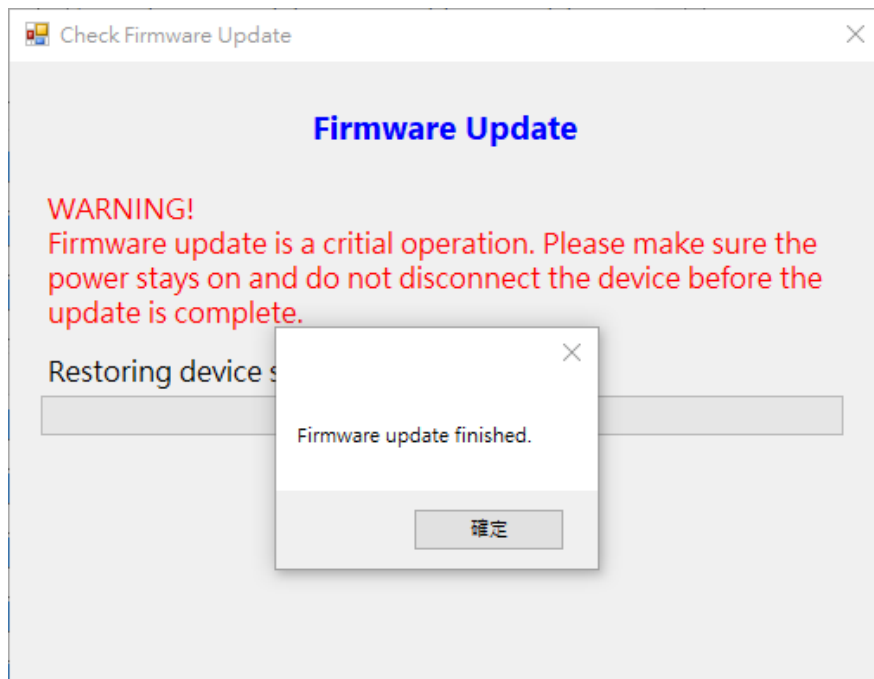

Figure 6-7
- 7 When software update is in progress, **DO NOT** remove the USB cable until software update is completed. See Figure 6-7.